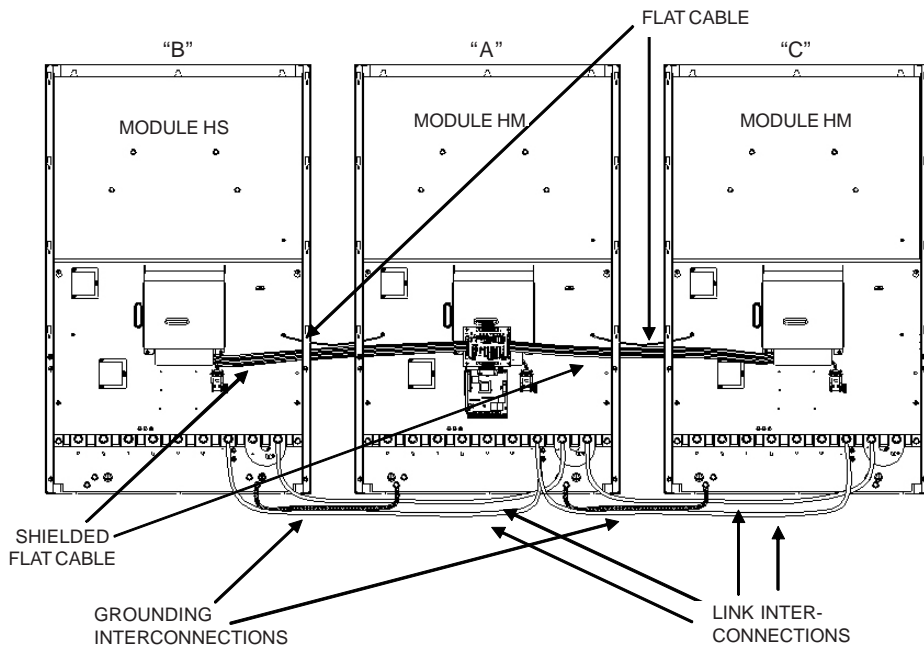

Figure 10 - Mounting of three Modules
- ☑ Figure 10 shows the mounting with three modules; if the mounting is only with two modules, eliminate only the "C" module and its connections.